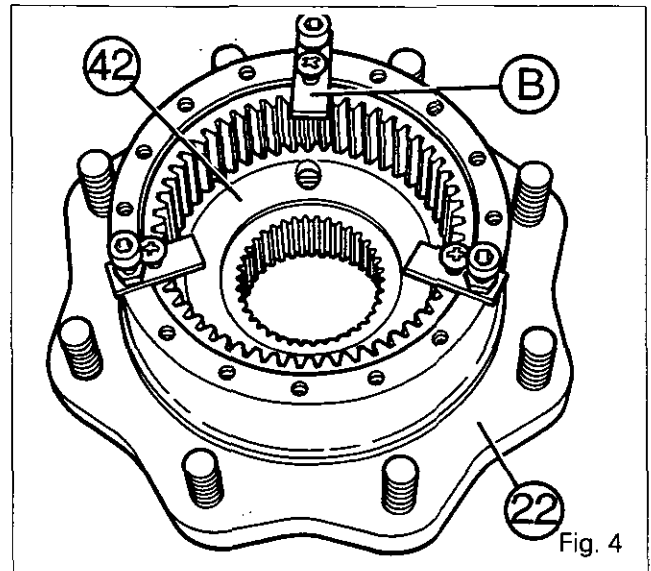

Fig. 4
38. Grease the splines of the swivel housing (47). Use four «B» flanges (manufactured locally according to the front axle type) screwed diametrically opposite in the wheel hub holes and assemble the ring gear carrier (42) with the wheel hub (22) (Fig.4).